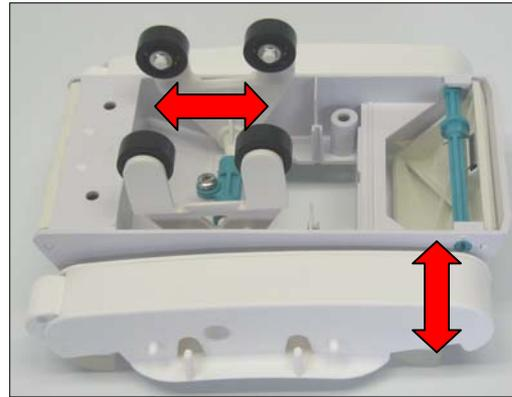

Figure 21
4. Inspect pods and A-Frames for wear caused by loose connection between the two parts. Both parts should move together as shown (fig 21).